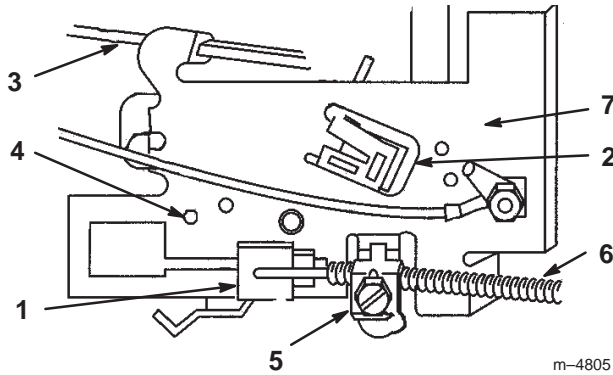

Figure 8
1. Place throttle control lever in fast position.(Fig. 8).
2. Hook wire Z-bend into hole of control plate slide (Fig. 8).
3. Loosen cable clamp screw allowing cable installation, but do not tighten (Fig. 8).
- Replace the spring washer, dish down and locknut (Fig. 8).